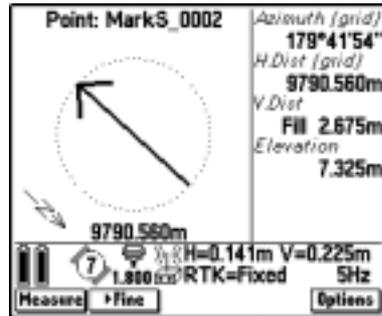

Figure 17.8 Graphical and text display – staking out a point
9. The stakeout graphical screen display appears. It shows coordinate differences between the point and the current position, the elevation of the current position, and a graphical representation of the direction to the point. See Figure 17.8.
10. Use the graphical display or the text display (see Figure 17.8) to navigate to the point. For more information, see *Using the Graphical Display to Navigate*, page 400.